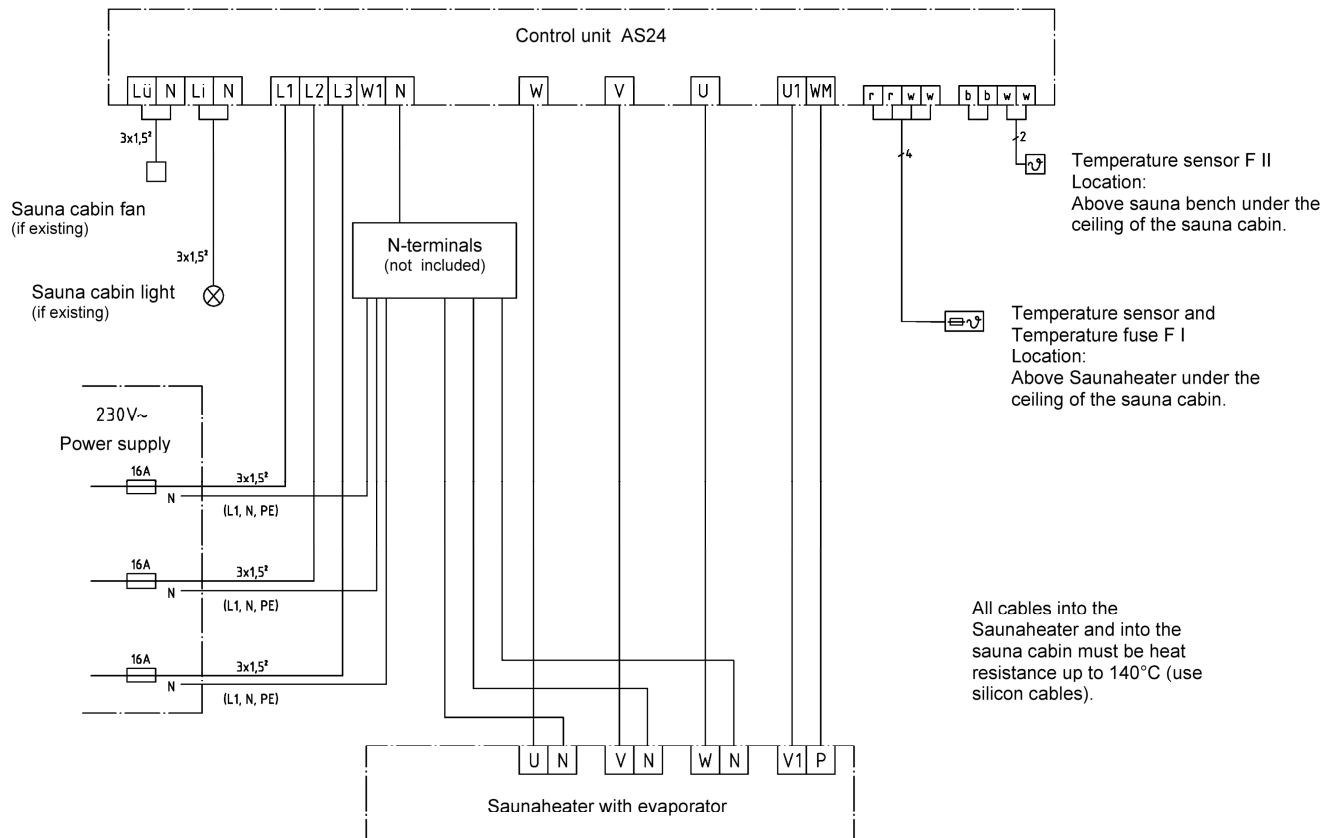

**Fig.6**
- Feed the connection cable in through the mains lead cleat, and connect in accordance with the wiring diagram (see Fig.5, Fig.6). Use supplied copper bridge for N-terminals if connected to triple phase.